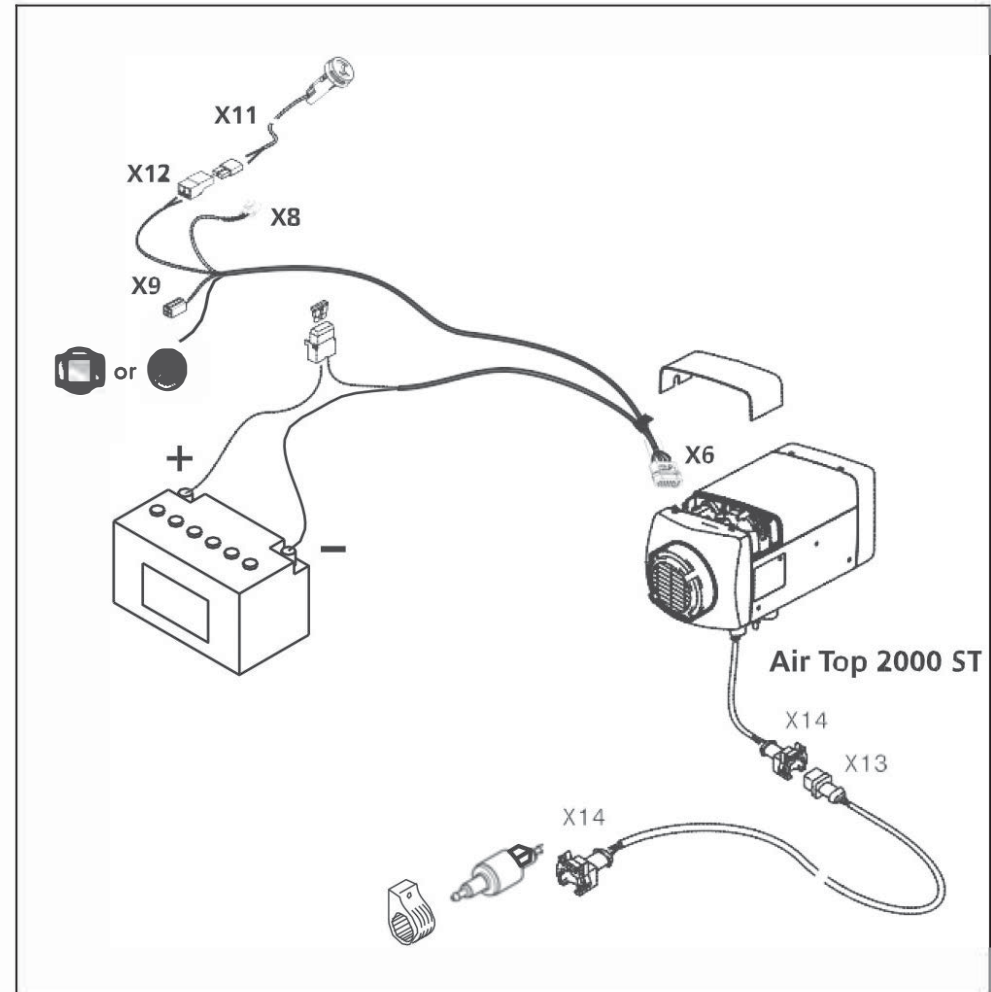
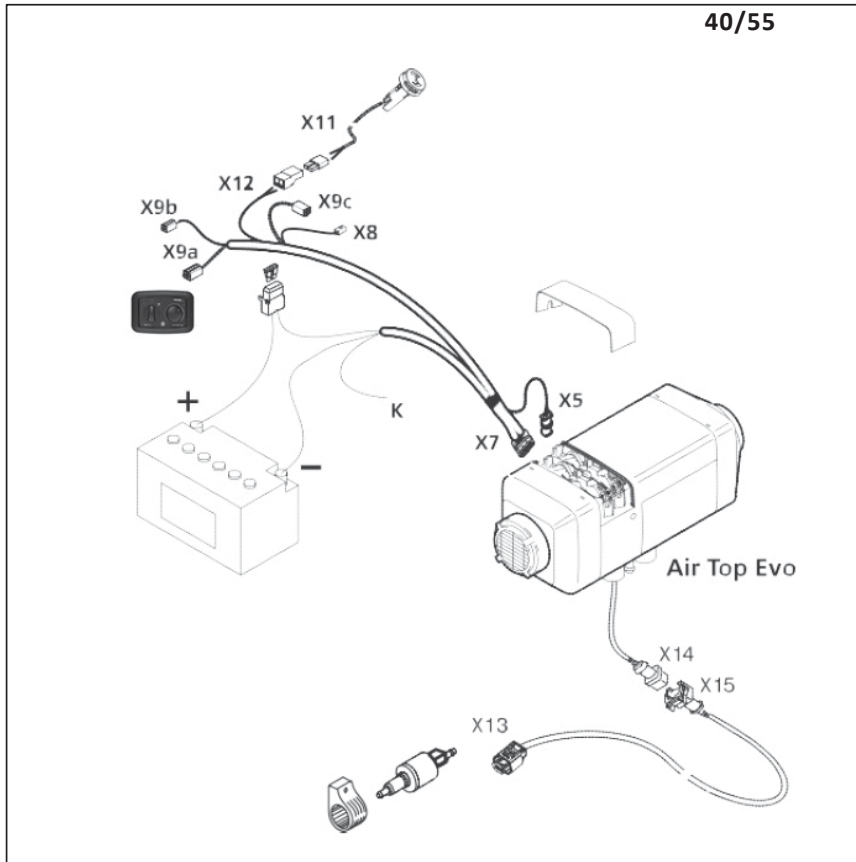

Fig. 33 Wiring harness Air Top 2000 ST
Fig. 34 Wiring harness Air Top Evo 40 /Air Top Evo 55
Fig. 33 and Fig. 34 show the wiring harnesses for Air Top 2000 ST and Air Top Evo 40 /Air Top Evo 55
- The wiring harness for the Air Top Evo 40 / Air Top Evo 55 includes cable K (Fig. 34, colour red/black) for optional control of a battery disconnecter or an additional operation indicator. If not required for this purpose, insulate the end of the cable.